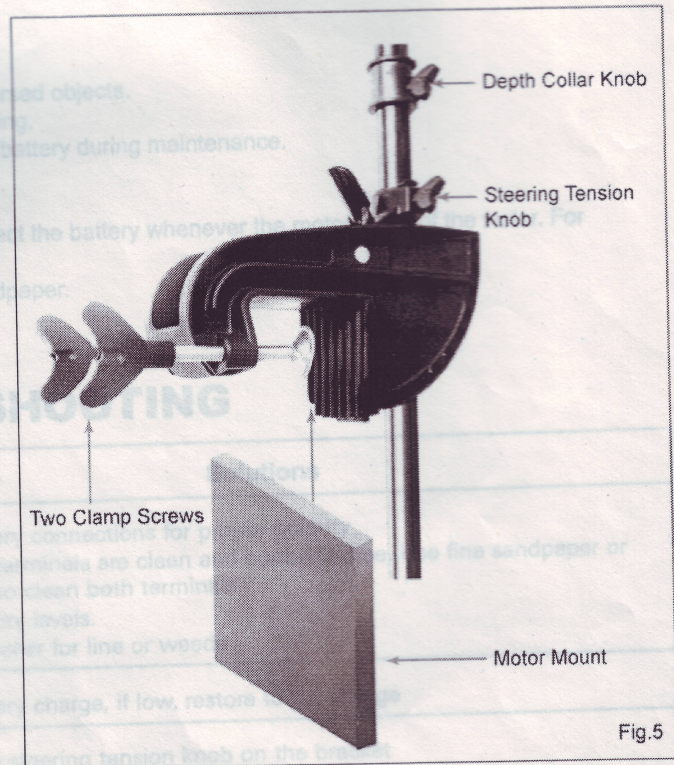

Fig.5
2. Install the motor on the motor mount and tighten the two clamp screws securely. (See Fig.5)